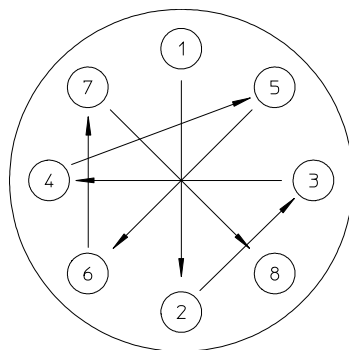

FIGURE 25
- Piston (12)
- Reassemble the piston (12), by fitting on it the two sliding rings (8), the piston seal (10), the backup ring, the retaining ring (13) and the return spring (46). Take care not to damage the spring seal during assembly.
- Insert the piston assembly on the cover. Ensure you are perfectly centered on the cover not to damage the spring seal (10).
- Use a threaded rod and a nut (as described in chapter 8.1) to maintain the piston (12) inside the cover (2).
- Grease (high temperature grease) the second guide gasket (40) and place it on top of the guide (9).
- Slide the cover (2) on its studs (35) until it reaches the guide (9). It is necessary to use a torque wrench to tighten the cover bolting. Tighten to 30% of the nominal torque (figures 25 + 26 & table 11)